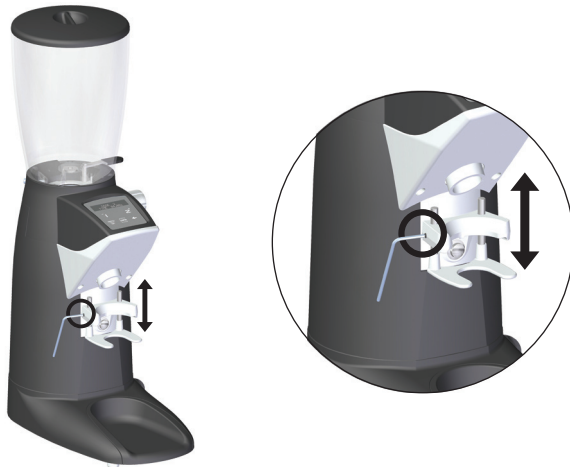

Fig. 1
1. Loosen the two adjustment screws (10) found on each side of the upper portafilter fork (16), by using the Allen Key included with your grinder.
3. Tighten the screw (10) found on each side of the upper portafilter fork (16), with the Allen Key provided (Fig. 1).
Unpack the grinder carefully and place it in the assigned work space. Before placing the bean hopper on the grinder, loosen the security screw found on the upper collar of the grinder (5). Place the bean hopper (2) on the upper part of the grinder so that the bean trap lever (4) is positioned on the right side of the grinder in the **CLOSED** position (*Fig. 1*). Once the bean hopper is placed on the grinder, rotate it clockwise until it is firmly in place and can rotate no further. If desired, replace the hopper security screw (5) to ensure the hopper cannot be removed manually.